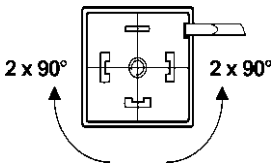

Fig. 4: Turning the manifold
- Carefully underlay the manifold with the screwdriver blade and lever it out (Fig. 4).